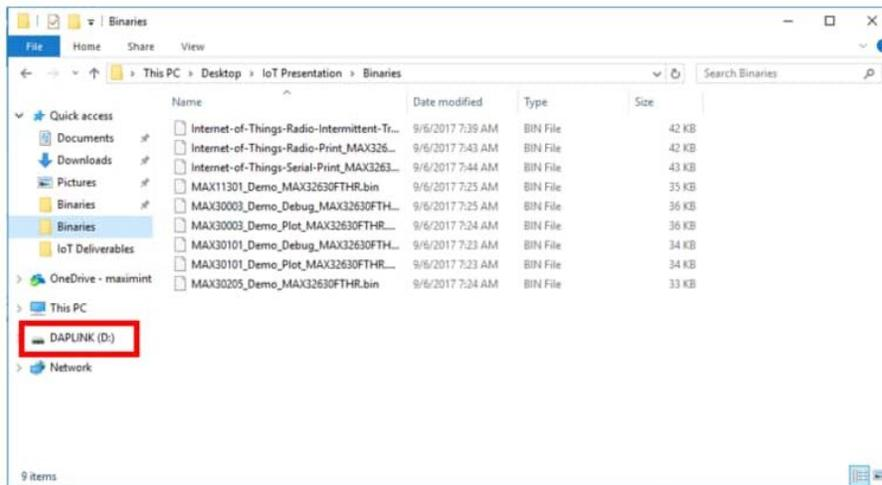

Figure 7. Drag the binary file onto the DAPLINK drive to program the microcontroller.
- The MAX32625PICO board appears as a USB drive with the name **DAPLINK** in your native file navigation program. **Figure 7** highlights the DAPLINK drive with a red box. Program the MAX32630FTHR by dragging the binary file onto the DAPLINK drive. Red LEDs flash on the MAX32625PICO until programming is complete. This typically takes a few seconds.